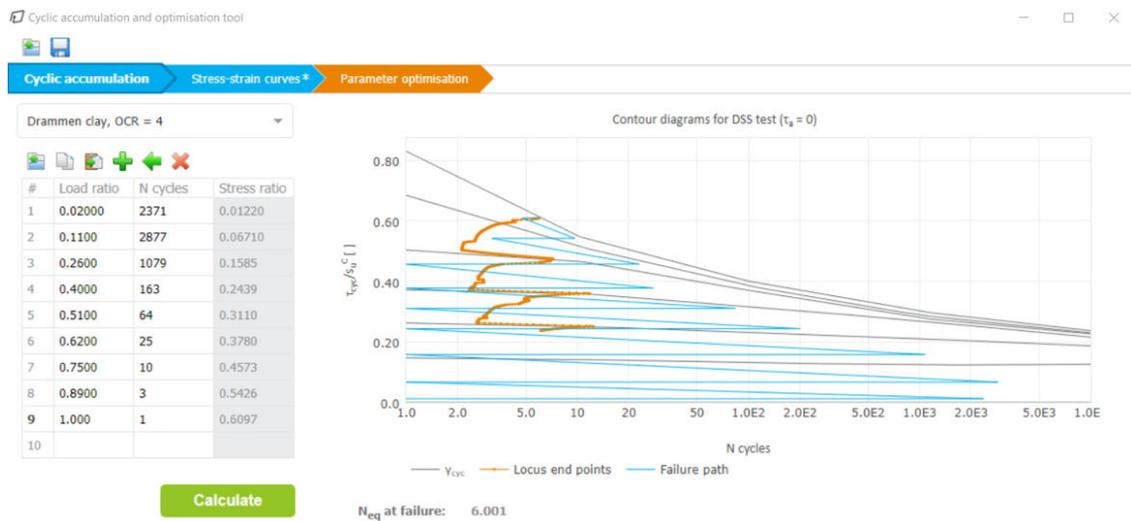

Figure 139: Cyclic accumulation in PLAXIS 2D
- Click **Calculate** to calculate the equivalent number of cycles  $N_{eq}$ . The selected contour diagram is plotted together with the shear stress history for a scaling factor where the soil fails (here defined at 15% shear strain) at the last cycle (Figure 139 (on page 158)) and the loci of end-points of the stress history for different scaling factors. The calculated equivalent number of cycles corresponds to the value on the x-axis at the last point of the locus of end-points and is equal to 6.001.